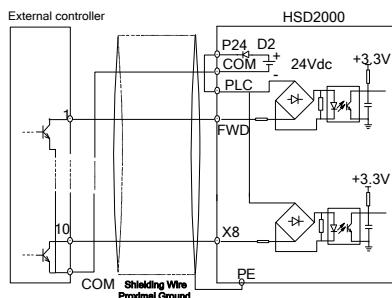

Figure 4-17: Internal +24V Power Supply Servo Drive Source Connection
- The servo drive internal + 24V power supply shall be used. The external controller connection mode is NPN common emitter output. It is shown in figure 4-17: